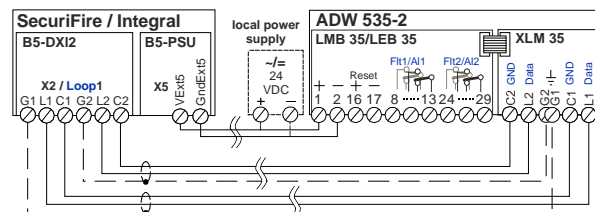

Fig. 28 Connection from XLM 35
- The connection and line routing between **XLM 35** and the SecuriFire and Integral FACP is to be carried out in accordance with **Fig. 28** (L1 to L1, C1 to C1, etc.).